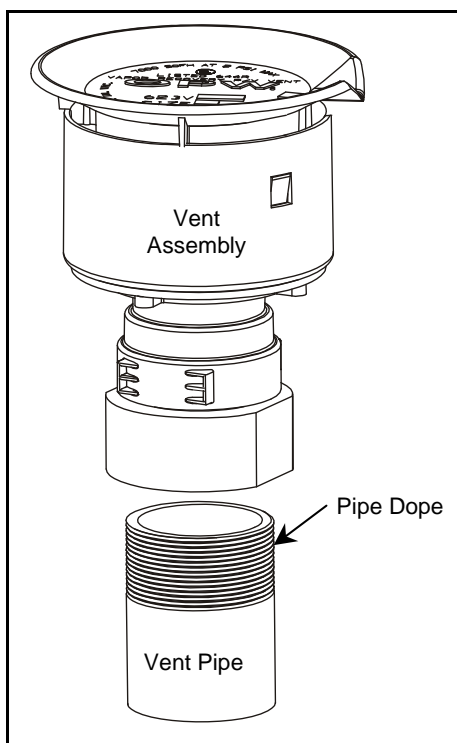

Figure 1
Step 2: (See Figure 1)
- 1.) Slide the rotatable adaptor socket of the assembled tool onto the appropriate lugs of the necessary product. See Figure 1.